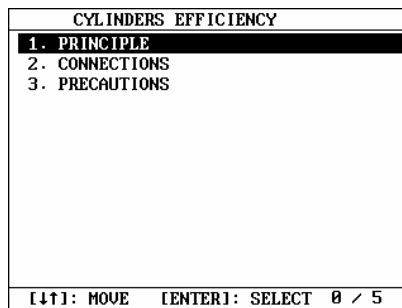

Fig.7-29
- ◆ Press [HELP] to enter the help interface as shown in Fig.7-29.